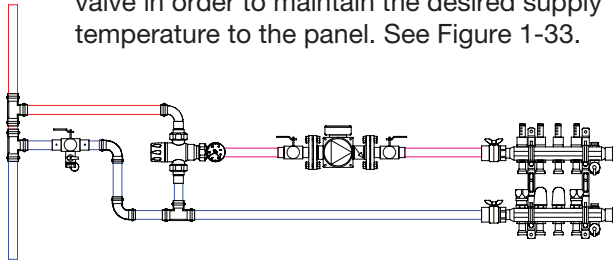

Figure 1-33 Thermostatic mixing valve to provide fixed supply temperature to manifold
- Thermostatic mixing valve – Water temperature on the outlet of a thermostatic mixing valve is regulated by a built-in, non-electric temperature control. The non-electric control is set to the desired temperature and adjusts the amount of hot supply or cold return water that flows through the valve in order to maintain the desired supply temperature to the panel. See Figure 1-33.